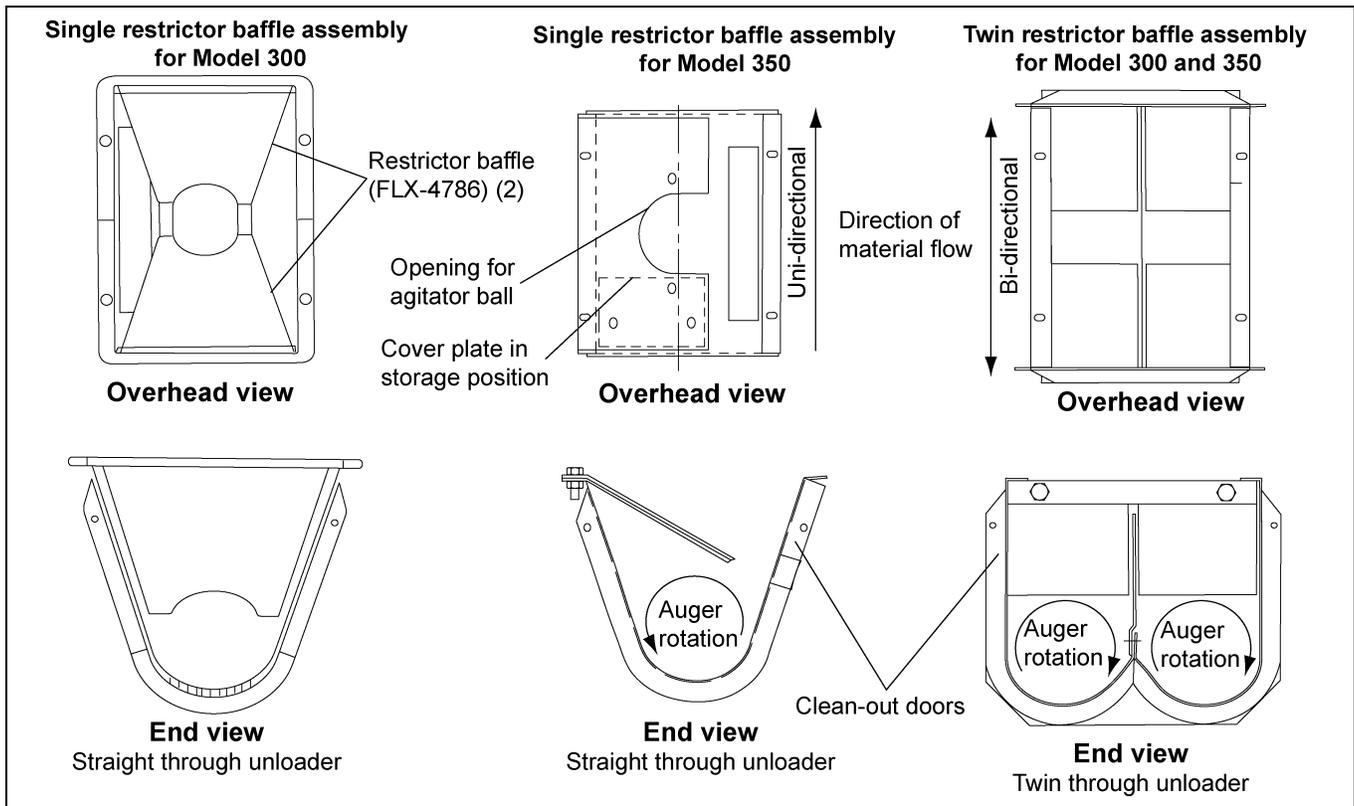

Figure 5H
2. Install baffle plate (FLX-4750) in the Model 350 single-through unloader as shown in Figure 5H. The twin unloader baffle is factory installed as shown in Figure 5H.